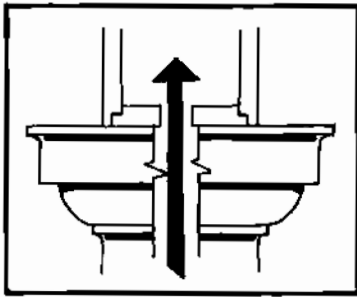
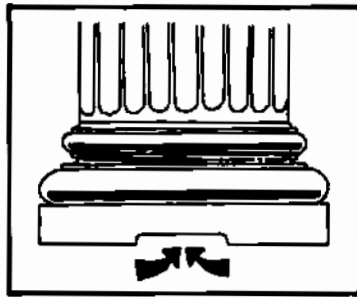
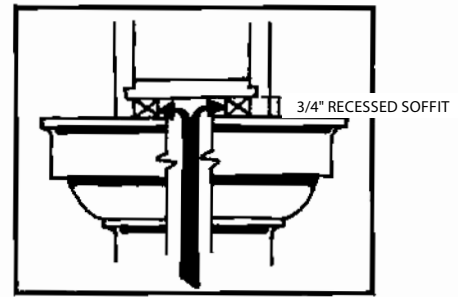

FIGURE 3-8
FIGURE 3-9
FIGURE 3-10
Columns must always have adequate ventilation. This can be supplied in two (2) ways: a ventilated plinth (Fig. 3-8) and soffit (Fig. 3-9), or a ventilated plinth and recessed soffit (Fig. 3-10).